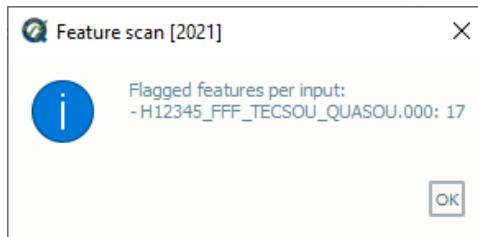

Fig. 2.45: The output message at the end of **Feature scan** execution.
- After computing, the output window opens automatically, the results are shown(Fig. 2.45).